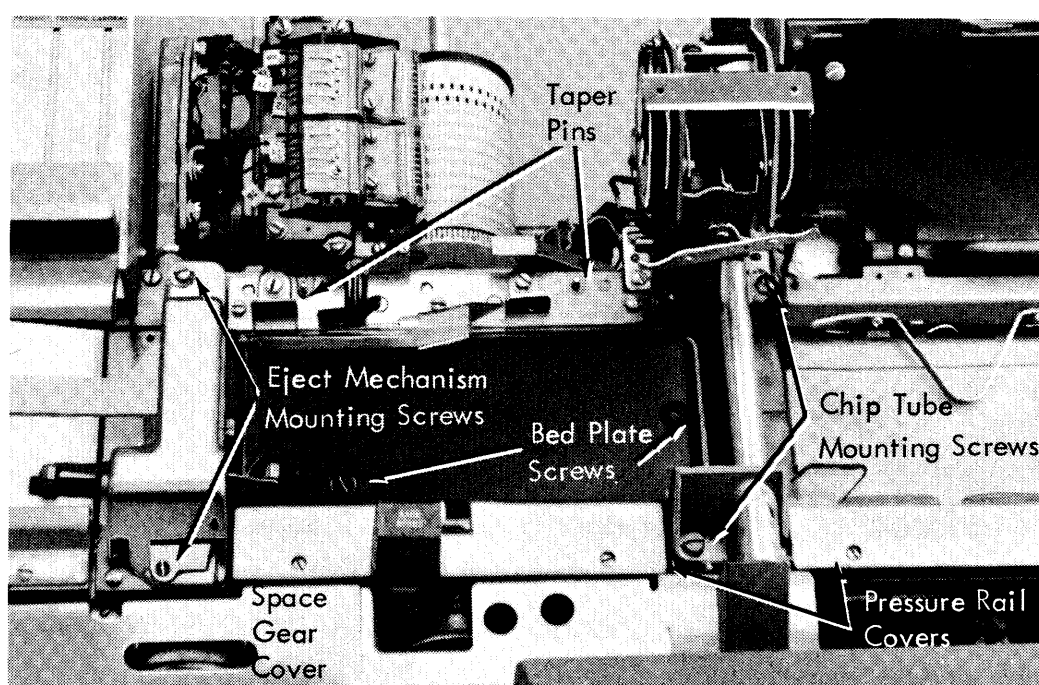

Figure 4-27. Punch Bed – Front View
- b. Chip tube by taking out two screws (Figure 4-27). Be careful not to lose the pressure roll spring.
2. Remove chip tube by taking out two screws (Figure 4-27). Be careful not to lose the pressure roll spring.
4. Remove front pressure rail covers at punch and read stations (Figure 4-27).